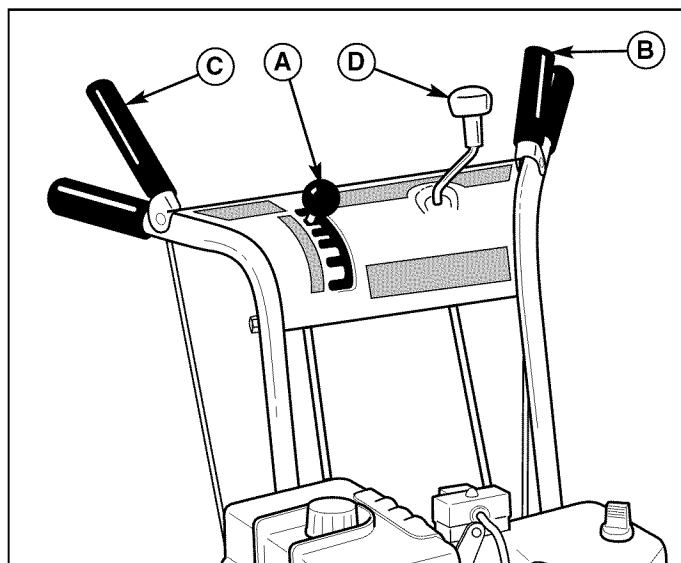

Figure 3. Operator's Control Position
A. Speed Selector - This lever (A, Figures 3 & 4) is used to set the ground speed of the snowthrower.
B. Traction & Free Hand™ Control - This control engages the traction drive as the lever (B, Figures 3 & 4) is depressed, and disengages the traction drive when the lever is released. When both levers are depressed the Free Hand™ control is activated. This allows the auger control to be released yet the auger remains engaged until the traction Free Hand™ is released. **NOTE:** Changing ground speeds must only be done while the drive control is in the disengaged (fully released) position.
C. Auger Control - The auger control clutch lever (C Figures 3 & 4), engages the auger drive when the lever is depressed and disengages the auger drive when the lever is released (unless Traction Free Hand™ control is also depressed-see above).
D. Chute Direction Control - The chute direction control (D, Figures 3 & 4), allows the discharge chute to be rotated to throw snow in the desired direction. Snow may be thrown at any angle from straight left, to straight forward, to straight right.
7. Check the drive control (B, Figure 3), and Auger Control (C) for proper operation. The auger and impeller must stop within 5 seconds of releasing the Auger Control (C). If adjustment is required, see the Service Section for procedures.
8. Check the chute direction control (D, Figure 3) for proper operation. The discharge chute should rotate freely in both directions. See the Service Section for adjustment procedures and troubleshooting.
9. Check the chute deflector (E, Figure 3) for proper operation. The deflector should pivot freely up and down when the chute deflector knob is loosened. If adjustment is required, see the Service Section for procedures.
11. Check the speed selector (A, Figure 3) for smooth operation. The control must move freely into each speed position gate and remain in position when released. If the speed selector does not move freely into all forward and reverse speed positions, contact your local authorized dealer for assistance.